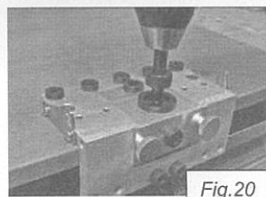

Fig. 20
- 9.3. Slide the jig onto the work piece as far as the edge of the work piece (fig. 20).
- 9.5. Now drill the vertical hole with the appropriately adjusted stop ring (fig. 20).